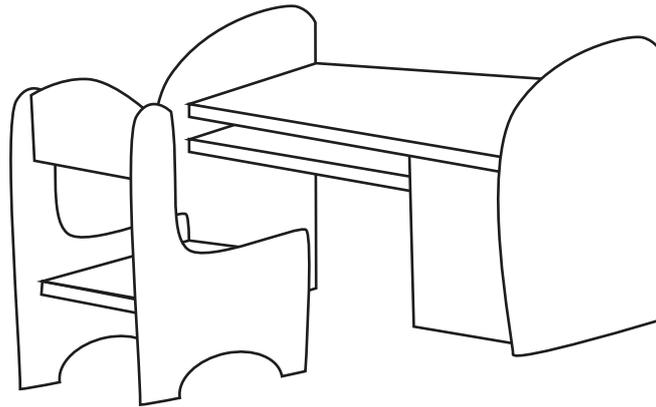

Fig. 6
- 6 **Fig. 6** below shows a child's desk and chair which has been designed and manufactured by a company which focuses on domestic bedroom furniture.